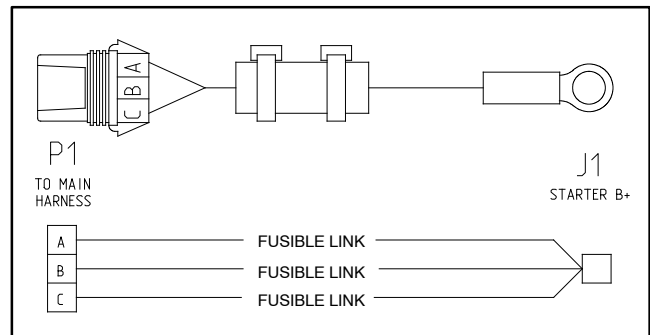

Figure 61
4. Use a multimeter to make sure that continuity exists between each terminal pin in connector P1 and connector J1 at the starter (Fig. 61). If any of the fusible links are open, replace the fusible link harness.